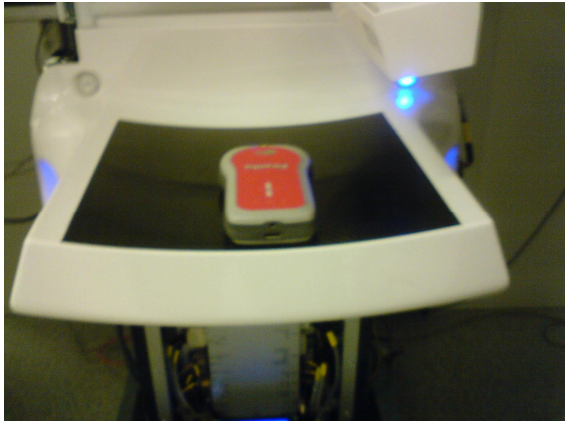

Figure 2. Detector positioning if Quick HVL is not used.
1. Position the meter as shown in figure 2, below. The centre of the white detector area of the Piranha/MPD should be at approximately 60 mm from the edge of the table.